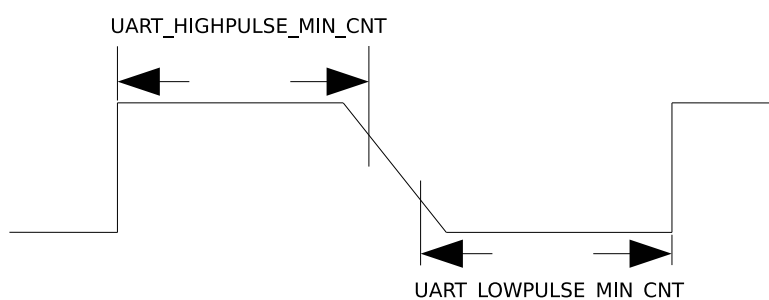

Figure 23.3-4. The Timing Diagram of Weak UART Signals Along Falling Edges
2. If UART signals are weak along falling edges as shown in figure 23.3-4, which leads to an inaccurate average of `UART_LOWPULSE_MIN_CNT` and `UART_HIGHPULSE_MIN_CNT`, use `UART_POSEDGE_MIN_CNT` to determine the transmitter's baud rate as follows: